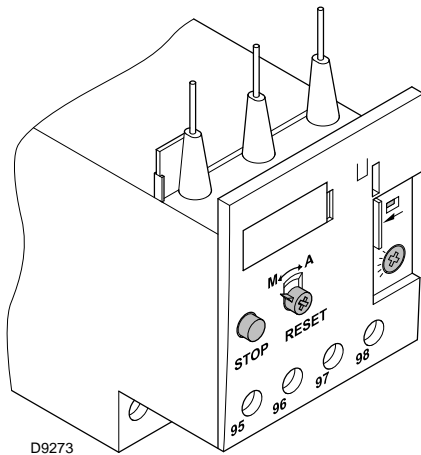

Fig. 23
The electro-mechanical thermal relay (Fig. 23) is used to avoid damage to the motor owing to a strong increase in absorption or the lack of a phase.
- To reset, in the case of an intervention of the thermal relay, press the button **"RESET"** (Fig. 23).
- The button **"STOP"** (Fig. 23) opens the NC (95-96) contact and stops the motor.